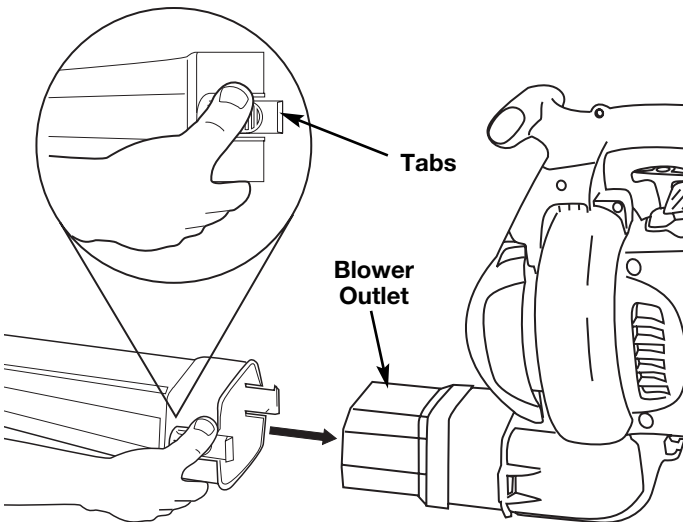

Fig. 1
- Install the blower tube over the blower outlet and push it on until both tabs snap into place (Fig. 1).
- Remove the blower tube by pressing both tabs at the same time and pulling off the blower tube (Fig. 1).